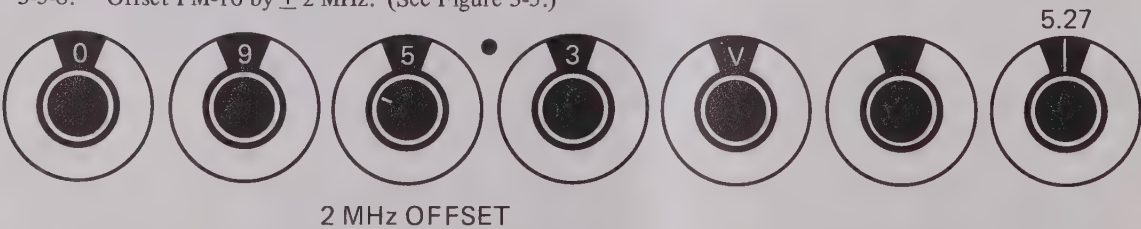

Figure 3-5. Frequency Controls Setup
3-5-8. Offset FM-10 by ± 2 MHz. (See Figure 3-5.)
- 3-6-4. Take setting of 0-1 KHz control and find correction factor from Figure 3-5.
- 3-6-16. Take setting of 0-1 KHz control and find correction factor from Figure 3-5.
3-7-3. Take setting of 0-1 KHz control and find correction factor from Figure 3-5.